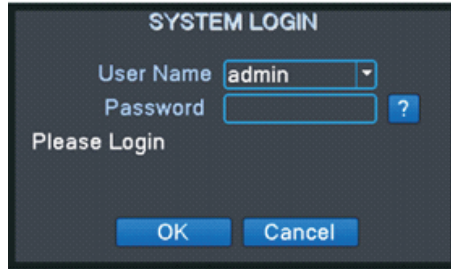

Figure 1. Login DVR admin account.
1. Log-in to DVR admin account. See Figure 1.